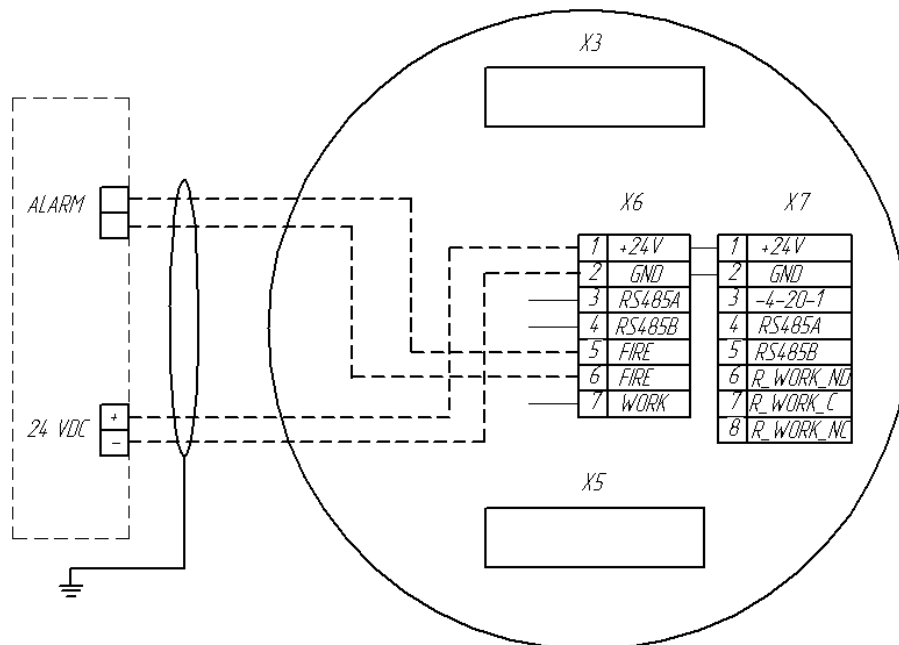

Figure 4 – Connection diagram for an explosion-proof detector EEx
- Figures 4 and 5 show examples of connecting the detector to fire alarm control panels;